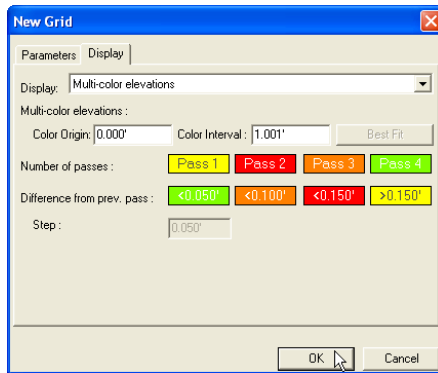

Figure 8-5. Enter New Grid Display Information
4. Enter the following display information for the grid (Figure 8-5 on page 8-5):